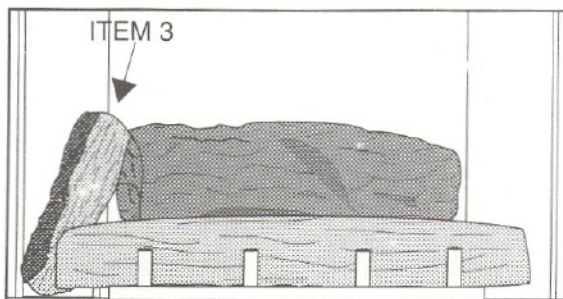

Figure 55
4. See **Figure 55**. One of the thin logs (**Item 3**) is installed next. Position this log with the "bark" of the log to the left. Place one end of the log behind the left side of the front log. Rest the opposite end of the log on the left edge of the Back Log.